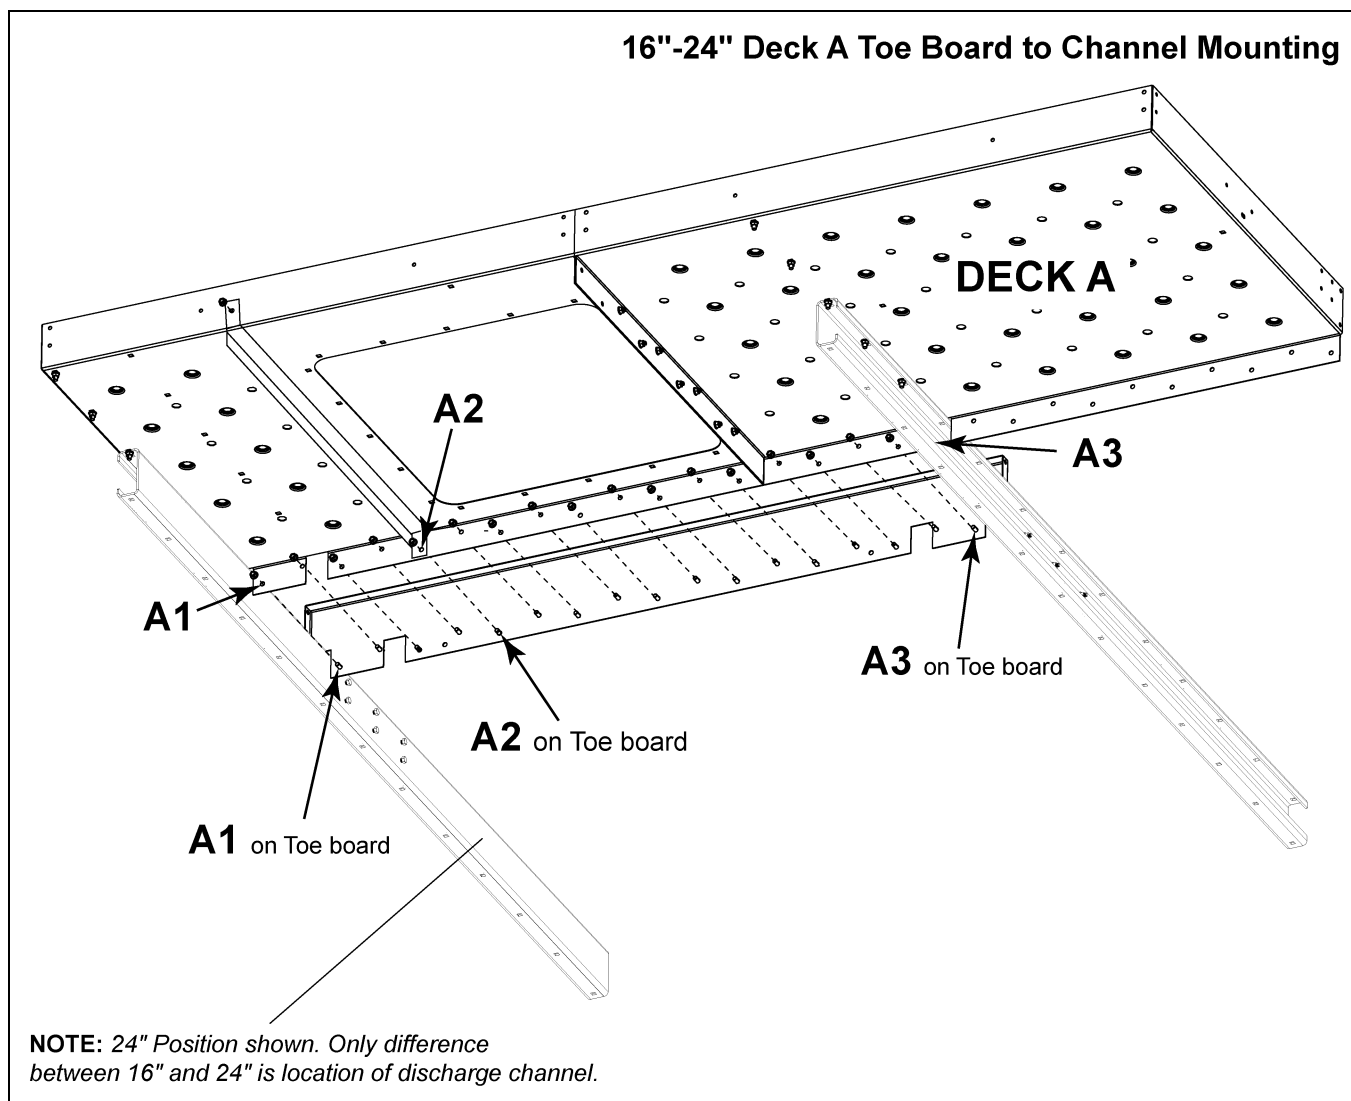

Figure 8B Deck A Toe Board Channel Location
3. Using a punch as needed for alignment, connect Deck A to the side toe board with 3/8" flange nuts (S-10028) and 3/8" x 3/4" flange bolts (S-7105). Torque to standard specifications. (See Figure 8B.)